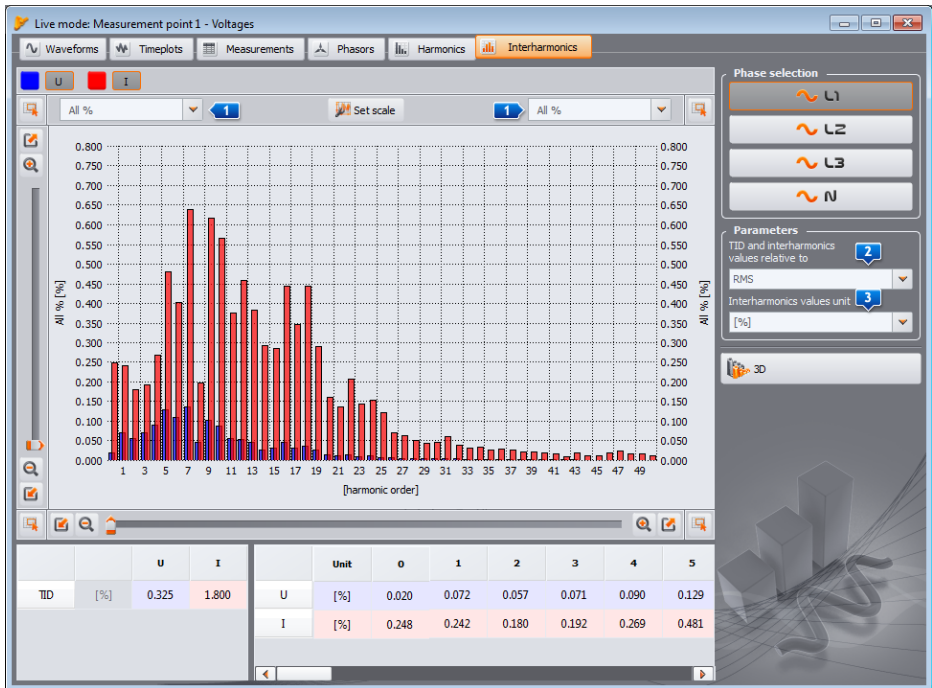

Fig. 47. Interharmonics graph.
**Interharmonics** tab enables the view of interharmonics values of voltage and current and TID factors. A sample screen is shown in Fig. 47. Parameters are displayed for one phase, which is selected by buttons on the right.